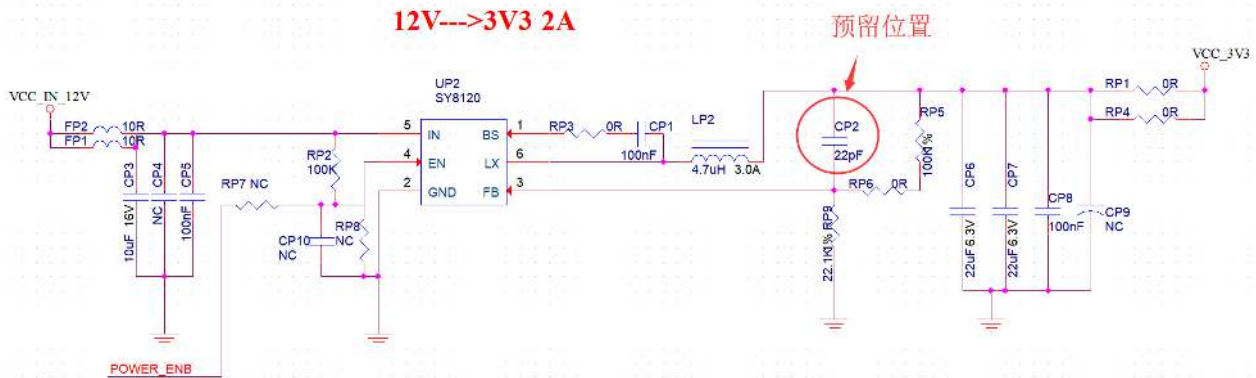

Figure 10 Recommended power supply circuit
2) If the external MCU GPIO is connected to the RESET pin of the module via a triode (as shown in Figure 10), the leakage current in the triode cut-off state is required to be less than 0.5uA. The reason is that the internal drag resistance of the RESET pin is very weak, and the leakage may pull the RESET pin below 1.2V. The NB chip work normally for its RESET pin high level need guaranteed to be above 1.2V.
- ① Use a MOS tube instead of the triode, most MOS leakage current is small.
- ② The pull-up circuit is reserved on the circuit (as shown in FIG. 10). The voltage range of VCC is 1.8V-3.6V and need often open. Do not use the electricity from the NB module.